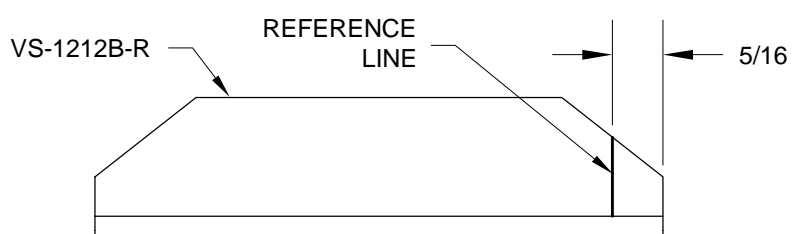

FIGURE 2:
Step 2: Mark the VS-1212B-R Upper Spar Cap with a reference line on the surface that nests against the VS-1203 Rear Spar web per the dimension shown in Figure 2.